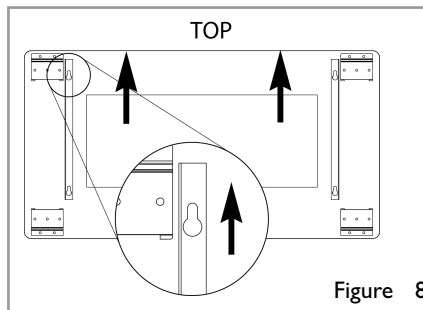

Figure 8
1. Remove the glass panel from all packaging and lay face down on a soft surface. Identify the top and bottom of the glass facia by observing the orientation of the keyhole shaped slots in the facia fixing brackets as shown in figure 8.